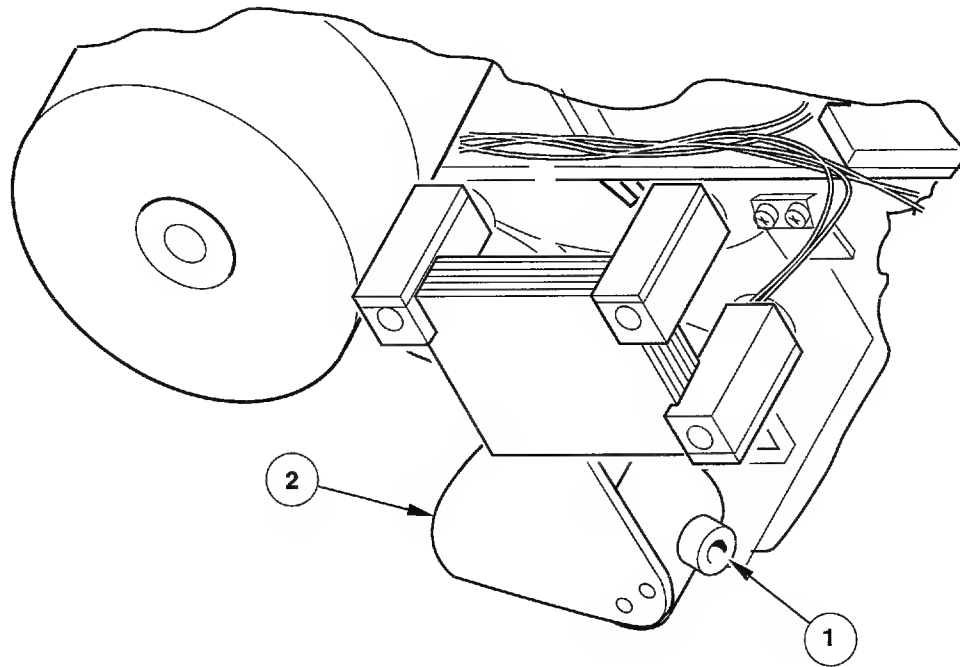

Figure 6-39. Tension Arm Adjustment
3. Loosen the screw (1) securing the hub to the shaft of the tension arm. See Figure 6-39. Adjust the rotor (2) to decrease the output voltage, then tighten the screw. Go to step 2.